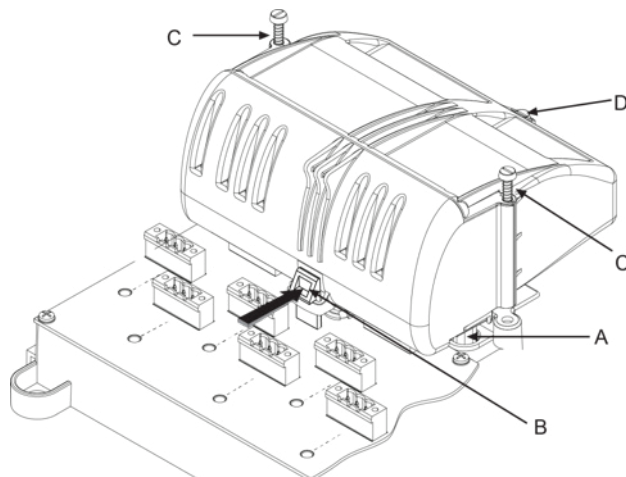

Figure 5.1 – Fieldbus Barrier module – fitting & removal
5.2.1 Removing a Fieldbus Barrier module (refer to Figure 5.1)
- b) Slowly pull the 9377-FB-R Fieldbus Barrier module away from its connections on the carrier until the safety retaining clip (B) stops further removal.
5.2.1.1 Fitting a Fieldbus Barrier module (refer to Figure 5.1)